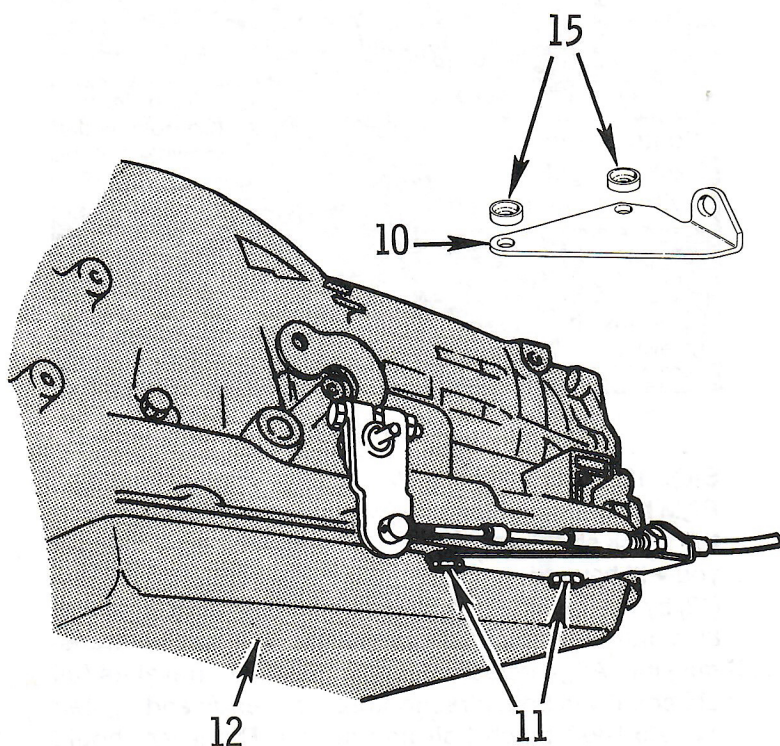

FIGURE 9
C-6: Remove the two transmission oil pan bolts (11) from the left rear corner of the oil pan. Install cable bracket (10) in position (See Fig. 9) with two spacers (15) between the pan and bracket. (If your transmission is equipped with a cast aluminum oil pan, these spacers (15) can be omitted.) Install the two 5/16"-18x3/4" bolts supplied and tighten 12-13 ft-lbs. **Do not overtighten as this can damage pan gasket.**